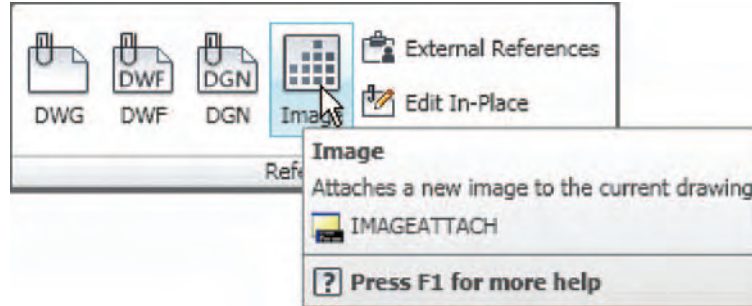
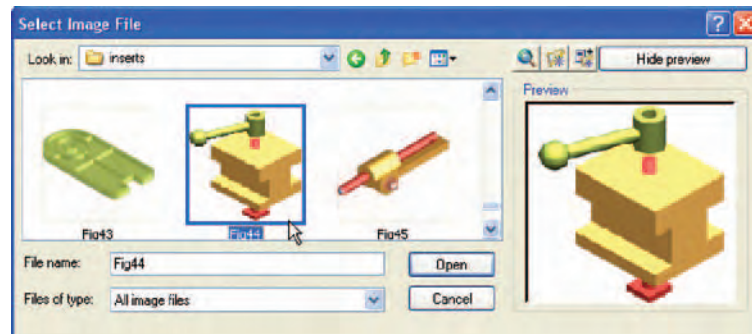

Fig. 10.9 Selecting **Image** from the **Blocks and Reference/Reference** panel
Fig. 10.10 The **Select Image File** dialog
1. Click **Image** in the **Blocks & References/Reference** panel (Fig. 10.9). The **Select Image File** dialog appears (Fig. 10.10). Click the file name of the image to be inserted, in this example **Fig. 44.bmp**. A preview appears in the **Preview** area of the dialog.